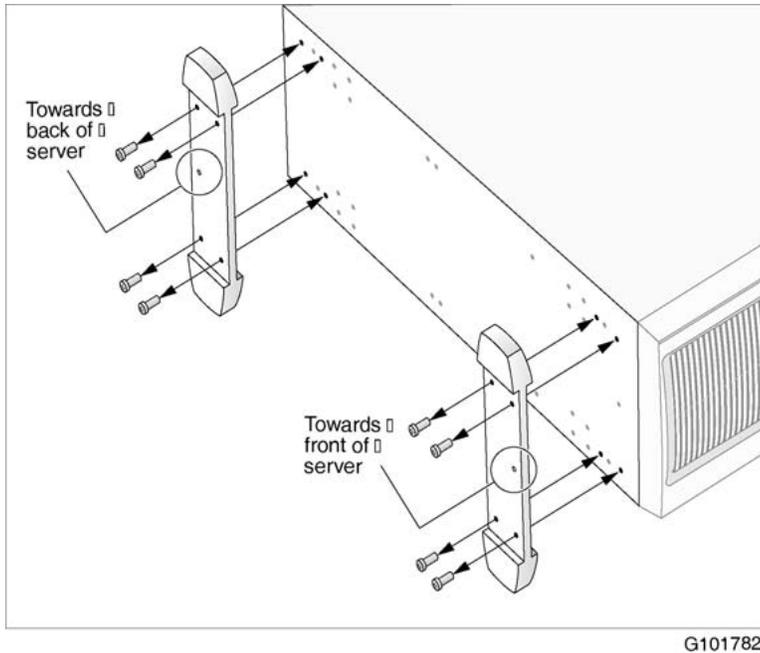

Figure 10: Remove chassis feet
- Remove the feet so that the server lies flat on the working surface. For more information, see Figure 10: Remove chassis feet on page 88.
3. If desired, continue with Figure 10: Remove chassis feet on page 88.